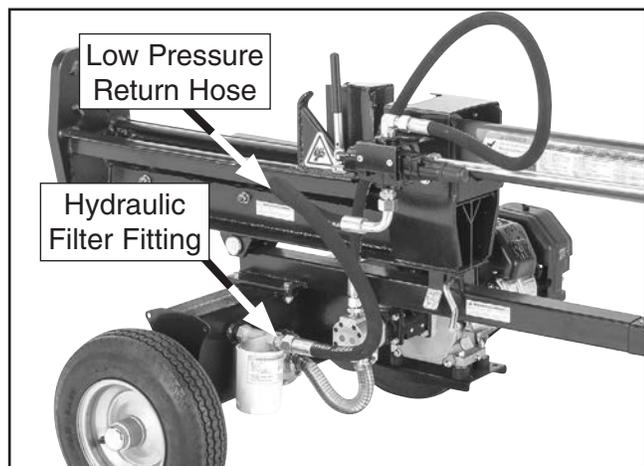

Figure 23. Low pressure hose and oil filter fitting.
17. Remove plastic cap from hydraulic filter fitting (see **Figure 23**), and lubricate and install (1) 17 x 2.5mm O-ring on end of fitting.
18. Unthread plastic plug from low pressure return hose (see **Figure 23**).
19. Install low pressure return hose onto tank hydraulic filter fitting (see **Figure 23**), making sure O-ring stays in place.